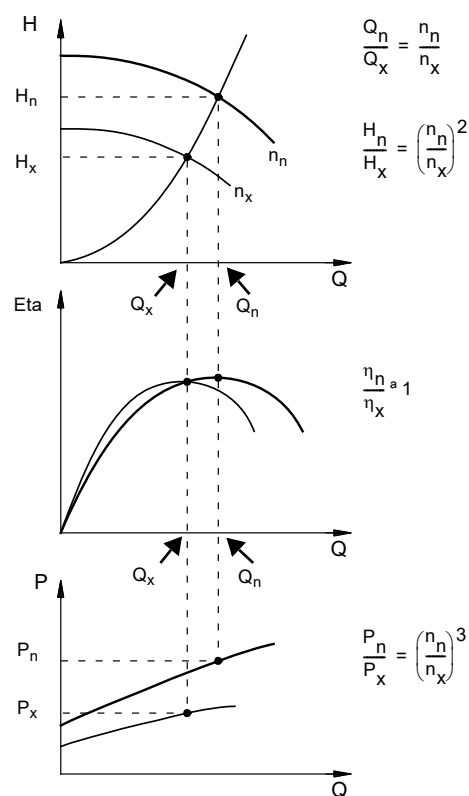

Fig. 51 Affinity equations
In situations where it is not possible to select a duty point close to the 100 % curve, the affinity equations to the right can be used. The head (H), the flow rate (Q) and the input power (P) are all the appropriate variables for determining the motor speed (n). See fig. 51.